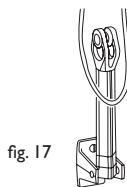

fig. 17
3. Using the two screws supplied, fix the tension pulley at the correct height, directly in line with the pull cord as shown (Fig. 17).